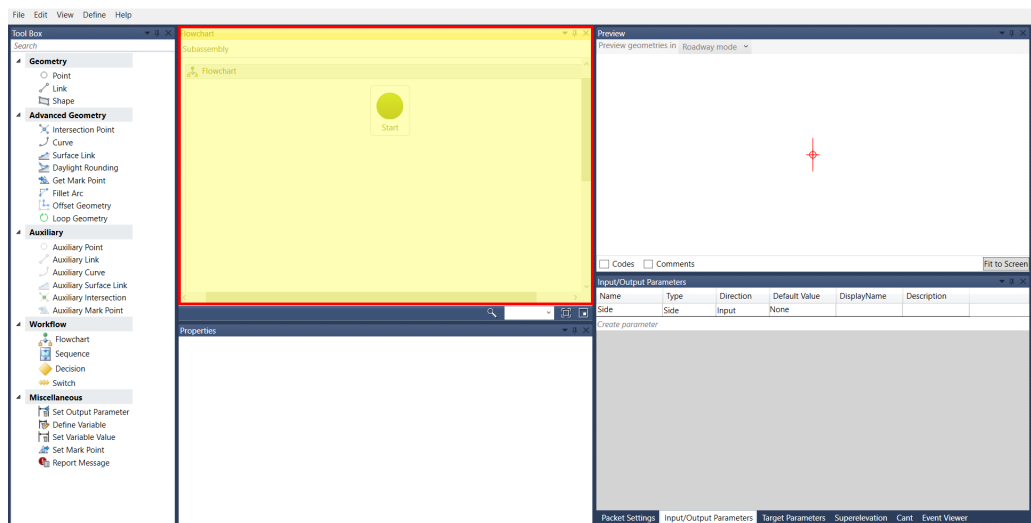

Figure 9.3 – Flowchart area
- **Flowchart:** This panel serves as the space for constructing and arranging the subassembly logic and elements. Whether it's straightforward linear logic or a complex tree of branching decisions, the process always commences at the Start element. In case of issues with the subassembly, a small red circle with an exclamation point will be visible in the upper right-hand corner of the **Flowchart** panel (refer to *Figure 9.3*).